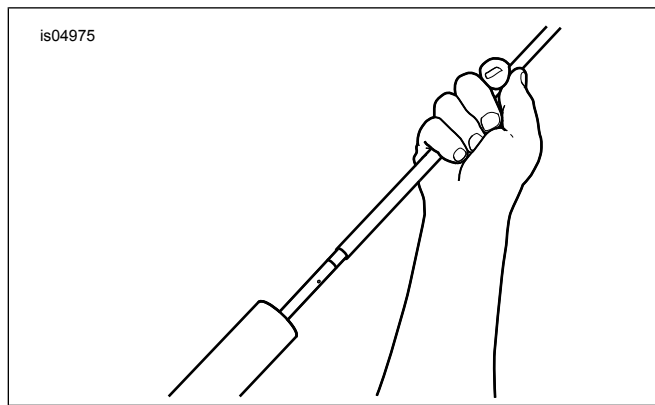

Figure 2. Pump Damper Rod Extension Tool
- a. See Figure 2. Thread extension tool onto end of damper rod.